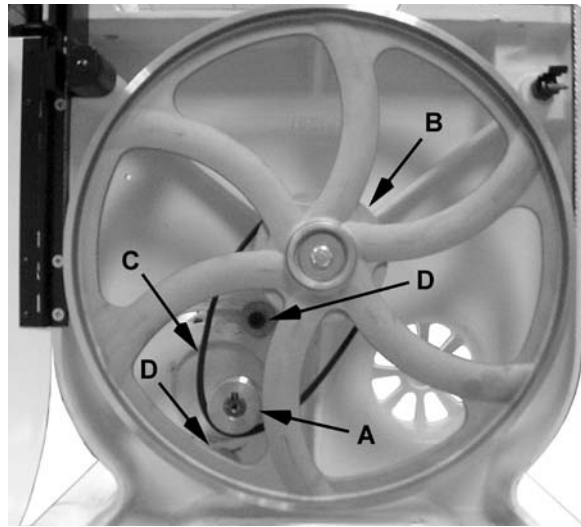

Figure 5
6. Place the *belt* (C, Fig. 5) around the *wheel pulley* (B, Fig. 5) and *motor pulley* (A, Fig. 5).
8. With a 6mm hex wrench, tighten both *socket head cap screws* (D, Fig. 5).